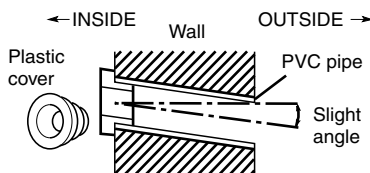

Fig. 3-138
- (6) Place the plastic cover over the end of the pipe (for indoor side only) and insert in the wall. (Fig. 3-138)